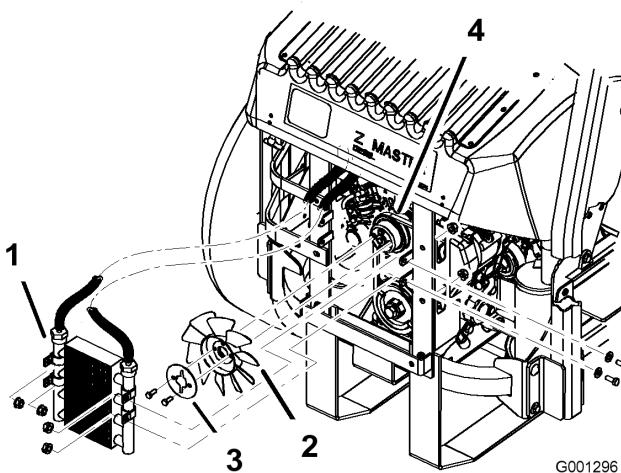

Figure 57
5. Remove the 4 bolts holding the oil cooler and position the oil cooler to the side (Figure 57).
6. Remove the 2 bolts holding the fan and fan plate to the machine (Figure 57).
10. Install the fan and fan plate to the machine with the 2 bolts previously removed (Figure 57).
11. Install the oil cooler with the 4 bolts previously removed (Figure 57).